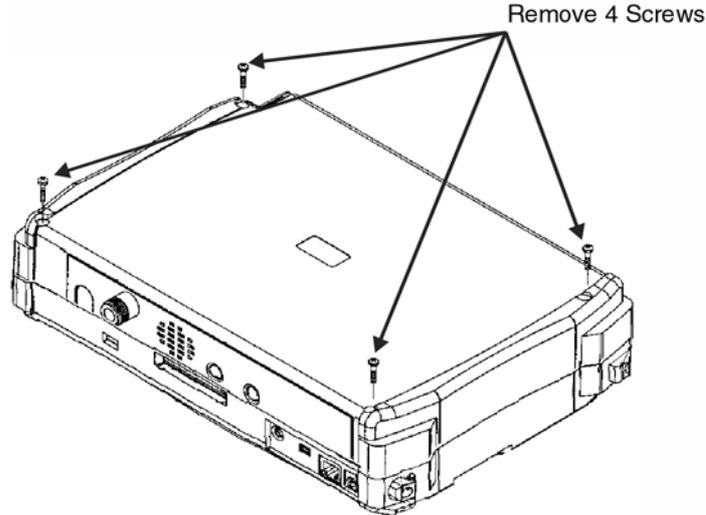

Figure 5-1. Opening the Case
2. Remove the 4 screws as shown in Figure 5-1.